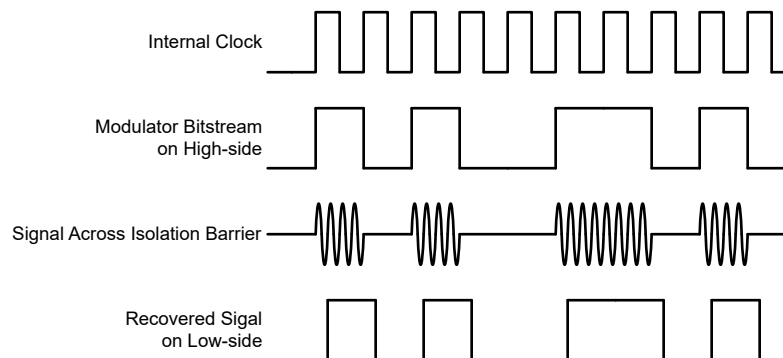

Figure 7-1. OOK-Based Modulation Scheme
As shown in Figure 7-1, the AMC0x11D-Q1 uses an on-off keying (OOK) modulation scheme to transmit the modulator output bitstream across the SiO₂-based isolation barrier. The transmit driver (TX) is illustrated in the Functional Block Diagram. TX transmits an internally generated, high-frequency carrier across the isolation barrier to represent a digital *one*. However, TX does not send a signal to represent a digital *zero*. The nominal frequency of the carrier used inside the AMC0x11D-Q1 is 480MHz.